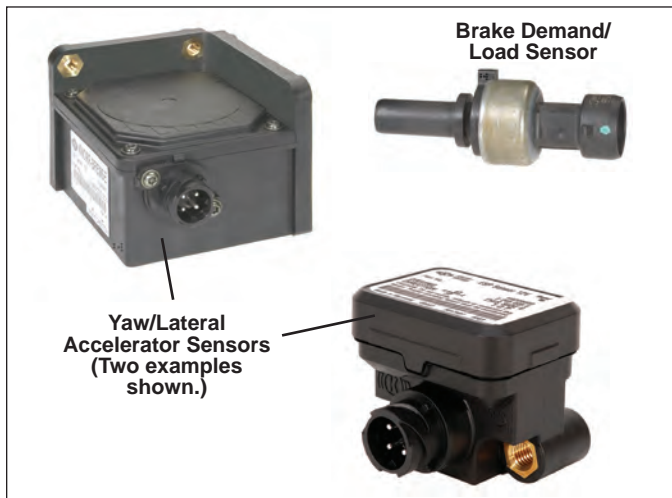

FIGURE 4 - EXAMPLES OF STEERING ANGLE SENSORS
- A Bendix® SAS-60™ Steering Angle Sensor (mounted to the steering column - See Figure 4)
The Bendix SAS-70X sensor is available with two different styles of wire harness connectors. (See Figure 4.)